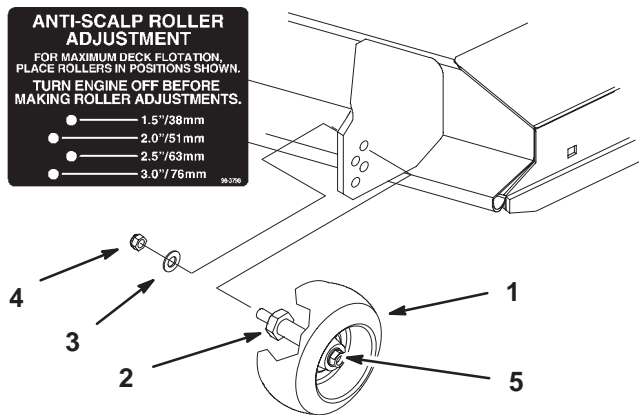

Figure 21
2. After adjusting height-of-cut remove flange nut and spring disk while holding stud with wrench (Fig. 21).
Note: Do not remove the wheel nut and washer (Fig. 21).
3. Select hole so gage wheel is positioned to the nearest corresponding height-of-cut desired (Fig. 21).
4. Reinstall the flange nut and spring disk. Torque to 40–45 ft.-lb. (54–61 N•m) (Fig. 21).